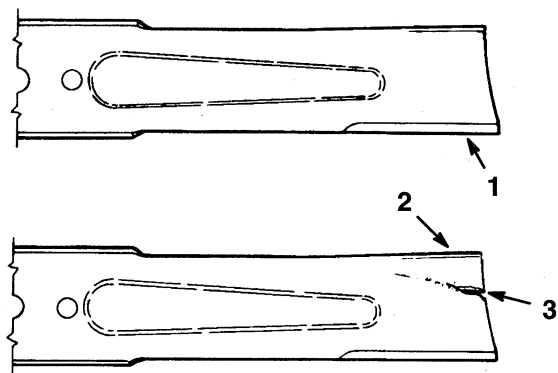

Figure 20
2. Inspect the cutting edges (Fig. 20). If the edges are not sharp or have nicks, remove the blade(s) and sharpen them; refer to Sharpening the Blade(s), page 16.
3. Inspect the blade(s), especially the curved area (Fig. 20). If you notice any damage, wear, or a slot forming in this area (Fig. 20), immediately install a new blade.